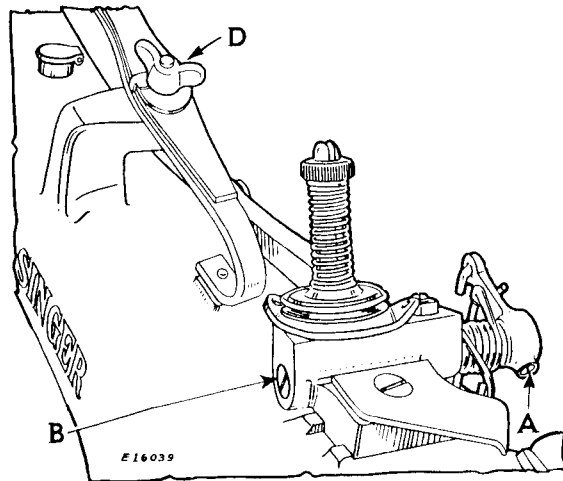

Fig. 12.
The pressure of the presser foot on the material is regulated by means of the wing nut (D, Fig. 12, page 20) at the top of the machine. To increase the pressure, turn the wing nut (D) downward. To decrease the pressure, turn the wing nut upward.
If the tension releaser does not release the thread when the presser foot is raised, or if the tension is partially released when the presser foot is down, loosen the set screw (A, Fig. 12) and turn the shaft (B, Fig. 12) to the right or left until the correct adjustment is obtained, then tighten the set screw (A).